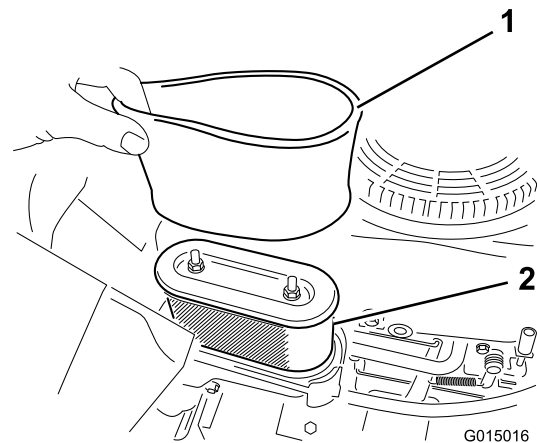

Figure 23
6. Carefully remove the foam and paper filter elements from the air-cleaner housing (Figure 23).
5. Align the tabs on the air-cleaner cover with the slots of the blower housing (Figure 23).